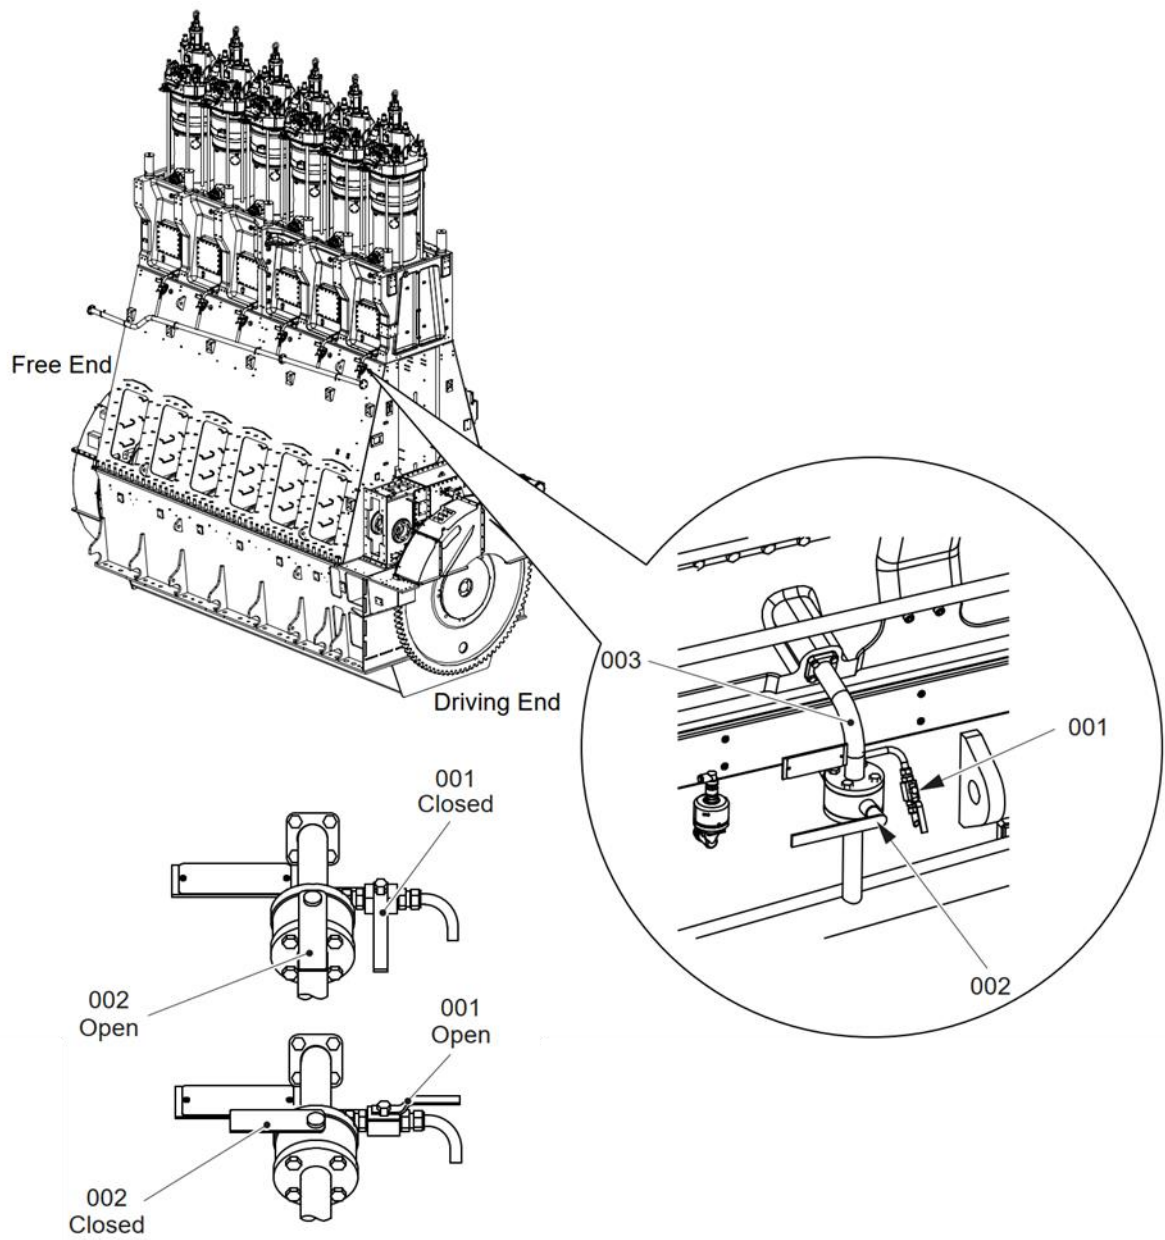

Figure 2: Location of ball valves (for used oil samples)
- 1.1. Close the ball valve (002, Figure 2) until enough oil is accumulated in the pipe. This typically takes 30 to 60 minutes and is strongly dependent on engine load and feed rate.